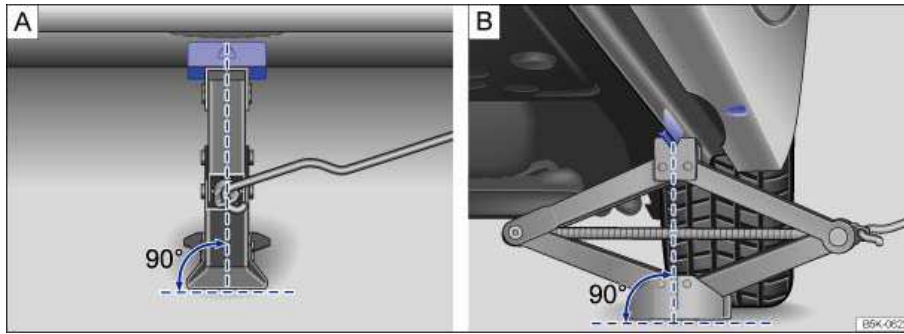

Fig. 179 Jack in position at the left rear lift point.
10. Position the jack so that its base is directly underneath the lift point ⇒ fig. 179, making sure that the entire base of the jack rests securely on the ground.